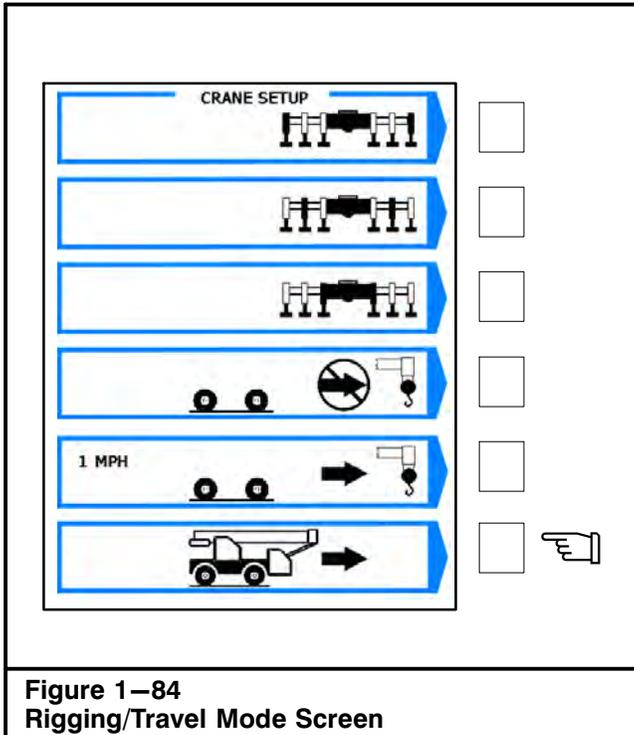

Figure 1-84
2. Select for stationary rigging or when traveling the crane. Refer to Figure 1-84.